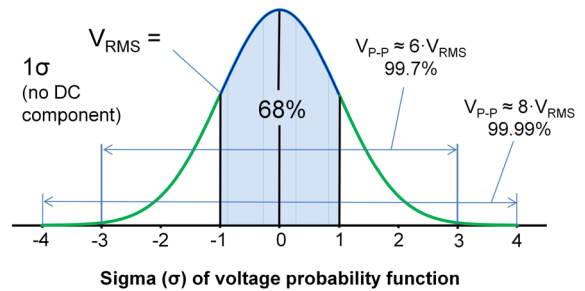

Figure 58: Gaussian noise spikes outside the ± 3 -times range are rare.
Resistor noise is also Gaussian, a description of its amplitude distribution, a probability density function. It is Gaussian because it was created by the summation of a gazillion little random events. The central limit theorem explains how this noise becomes Gaussian. The root-mean-square (RMS) voltage of alternating current (AC) noise is equal to $\pm 1 \sigma$ of the amplitude distribution (Figure 58). For 1-V RMS noise, there is a 68 percent ($\pm 1\text{-}\sigma$) probability that the instantaneous voltage will be within a $\pm 1\text{-}V$ range. A common misconception is to relate or equate white and Gaussian, but they are unrelated. Filtered resistor noise, for example, is not white but remains Gaussian. Binary noise is definitely not Gaussian, but it can be white. Resistor noise is white **and** Gaussian.